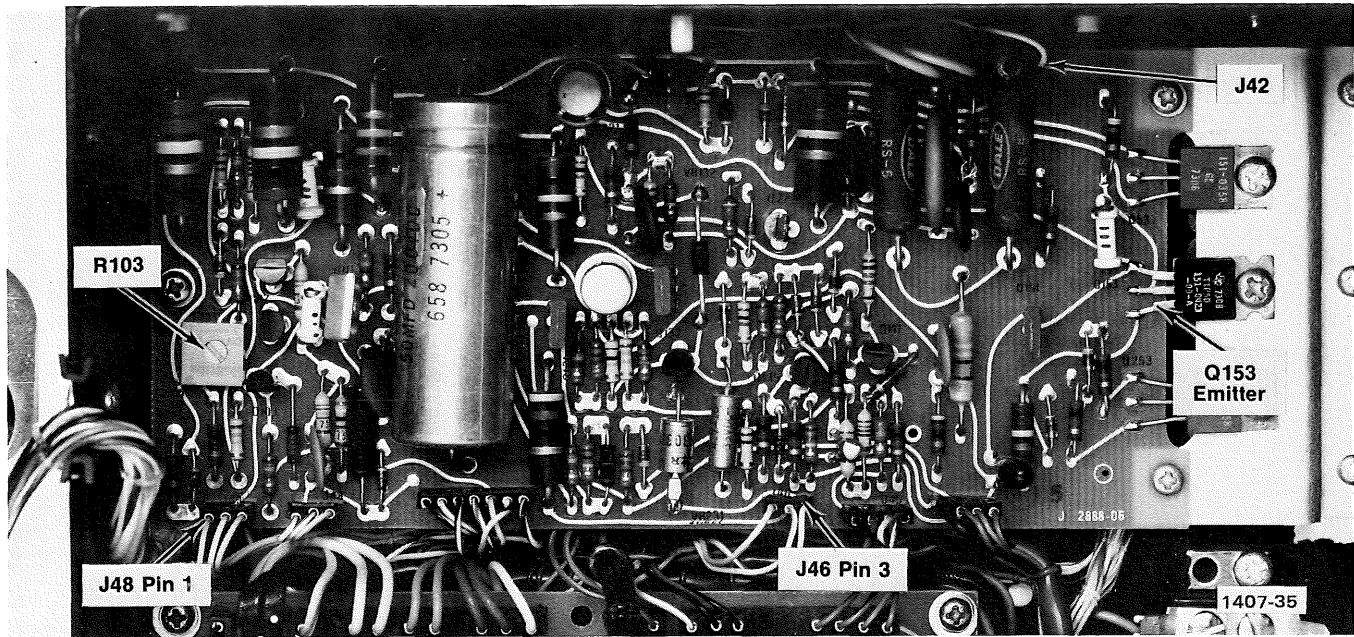

Fig. 3-4. Storage board locations of adjustments and test points.
- a. Connect the dc voltmeter to J48 pin 1 on the Storage board (see Fig. 3-4). Adjust R103 to produce a meter reading that agrees with the crt CE voltage on the crt voltage tag attached to the metal shield.